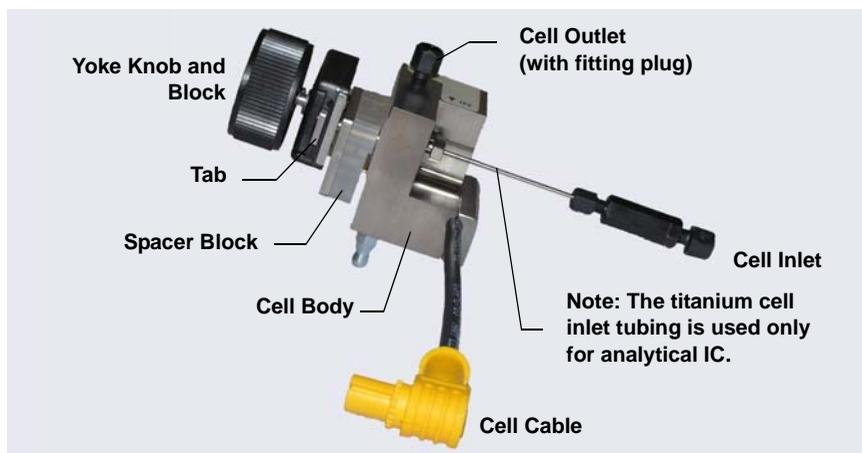

Figure B-1. ED Cell Components
1. Remove the ED cell from the box. Refer to Figure B-1 to identify the cell parts.